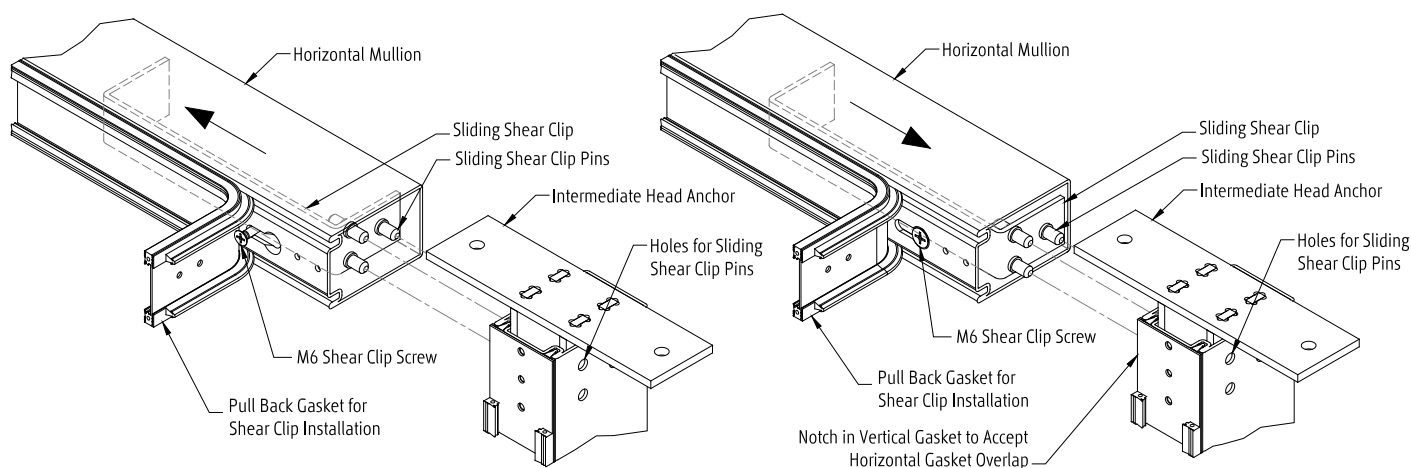

Figure 10 - Sliding Shear Clip Installation at Head
- a. Slide upper mullion section squarely onto splice plates on lower mullion section (Figure 10).